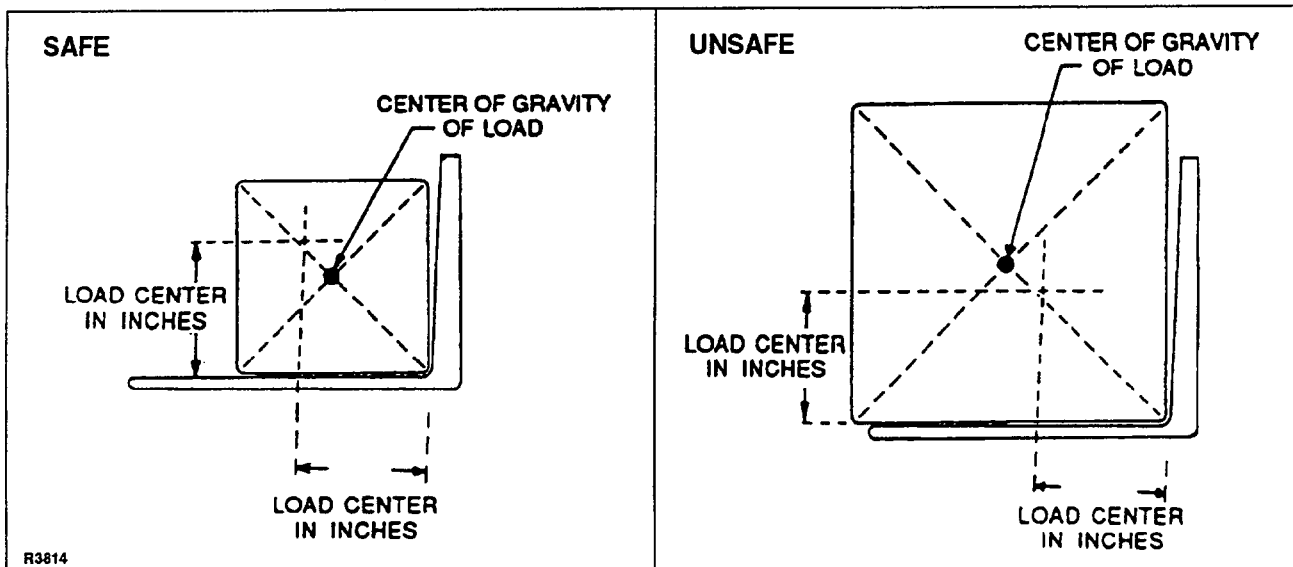

Figure 2-1. Load Center
5. Center and carry the load as far back as possible toward the lift carriage back rest. Do not pick up loads on the tips of forks. The center-of-gravity of the load must not exceed the load center listed on the name plate. See Figure 2-1 for load center limitations.